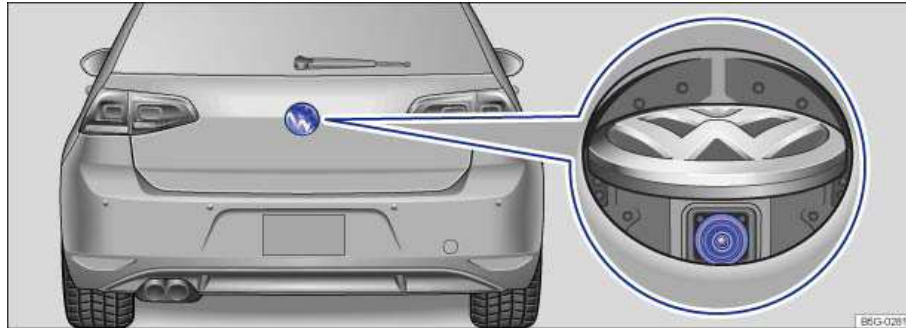

Fig. 142 In the rear hatch: Location of the camera.
- ✓ A reliable and clear image must be displayed and the camera lens must be clean ⇒ fig. 142.
The camera ⇒ fig. 142 (magnified view) displays only two-dimensional images. Recesses and protruding objects on the ground or protruding parts on other vehicles may be difficult or impossible to identify due to the lack of depth of field.